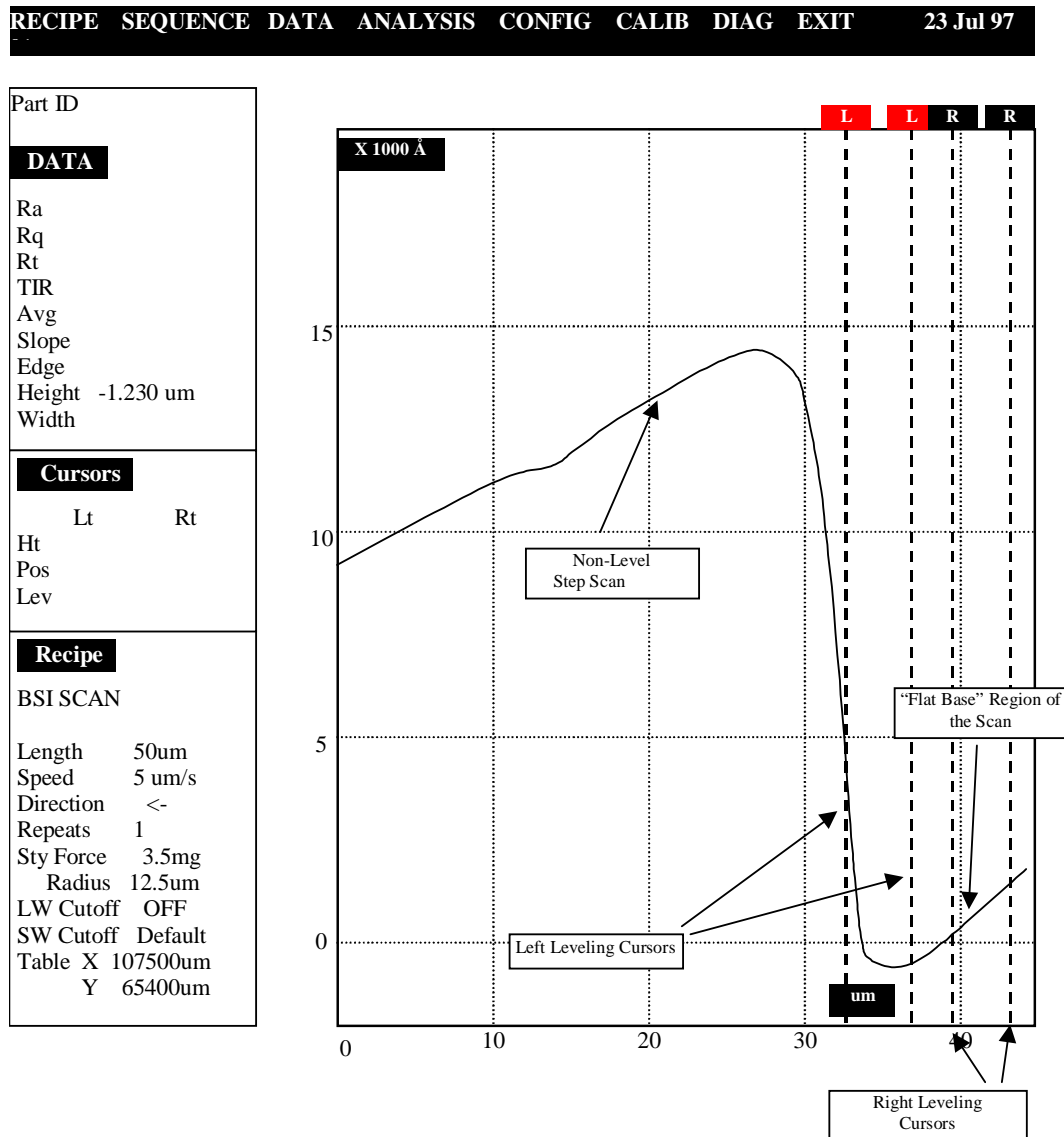

Figure 2. Tencor Trace with Leveling Cursors Shown
- 6.7.2 Press the **LEVEL** button on the right hand side of the keyboard to replace the measurement cursors with the leveling cursors. The scan will now look like Figure 2.